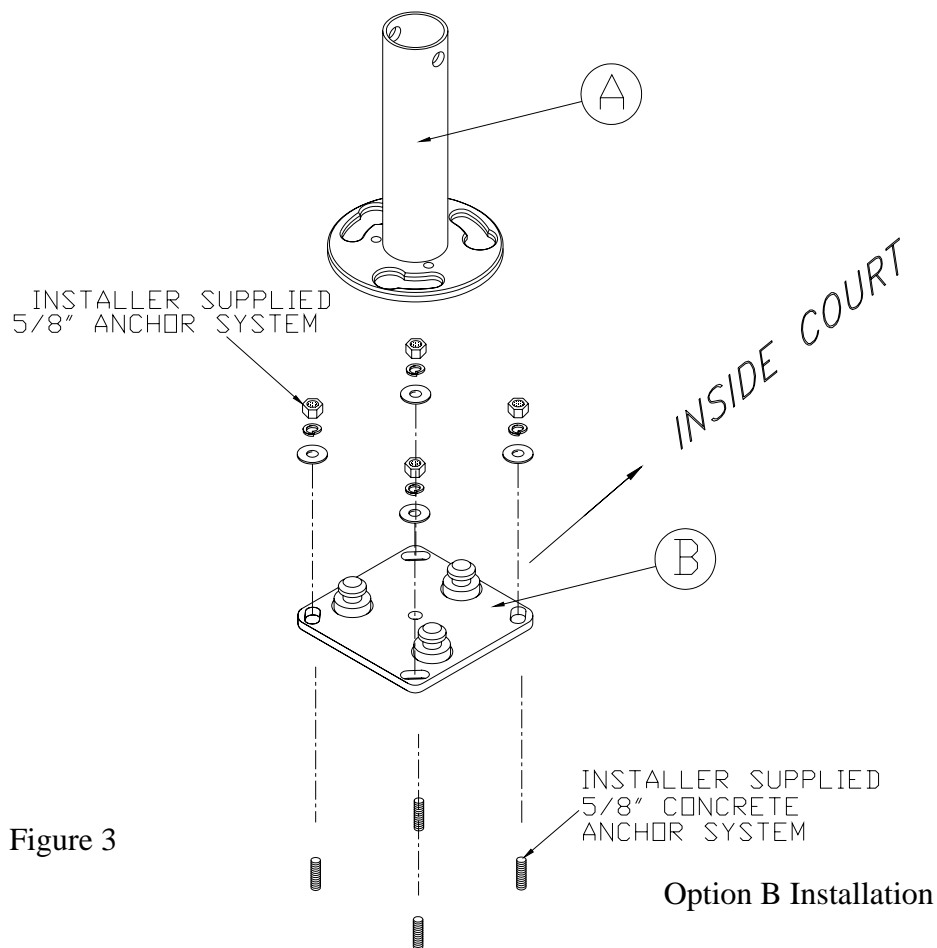

Figure 3
- A2. With sand removed to expose the compacted soil, dig holes at each post location that are approximately 20" diameter, 36" deep. If final sand depth is more than 16" for SVB27, and 12" for SVB23 field construct a 24" square plywood form with the top of the form approximately 16" for SVB27, and 12" for SVB23 from the final playing surface. See Figure 3.
- A8. Clear all excess concrete from around the *Template* (G) and the exposed "J" Bolt (C) threads and nuts.
- A9. Once the concrete is cured, you may now remove the upper 5/8" Hex Nuts (D) from the "J" Bolts (C) and remove and discard the *Template* (G).
- A10. Place the 5/8" Hex Nuts (D) you just removed back on each "J" Bolt (C) and finger tighten against the nut that is embedded in the concrete footing. Install one 5/8" Flat Washer (E) on the top of each 5/8" Hex Nut (D). See Figure 3.
- B2. Discard "J" Bolts (C), 5/8" Hex Nuts (D), 5/8" Flat Washers (E), 5/8" Flat Washers (F), Template (G) and 36" Rebar (H) as they will not be used in this application.
- B3. Position *Twistlock Base Plate* (B) on concrete floor as shown in Figure 3.
- B4. Anchor *Twistlock Base Plate* (B) into concrete floor using appropriate 5/8" concrete anchoring system (not supplied). Anchor at 4 places per *Twistlock Base Plates* (B).